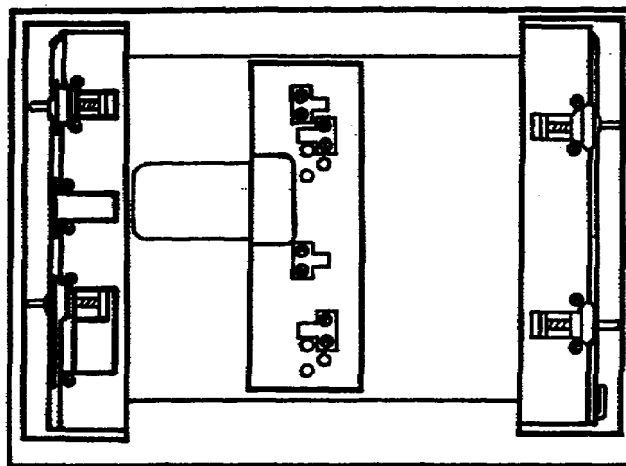

Figure 9. Cleat and wing nut clamp adjustment.
d. Adjust the wing-nut bars and cleats (Figure 9) on the top shelf so that the cleats and wing-nut clamps match the notches in the sides of the AM-6545 and CU-2064 for desired orientation based on the direction of the RF cable run. These are held in place by large Phillips-head screws. These cleats must be moved to change orientation, and the wing-nut clamp bars must also be moved by removing the Phillips-head, recessed screws that will be used to remount them.